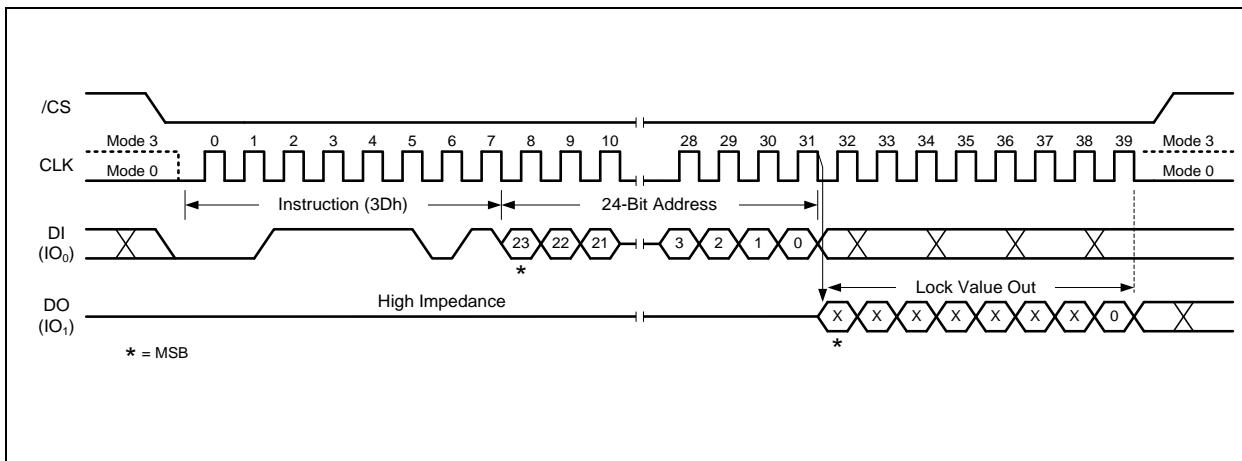

Figure 57. Read Block Lock Instruction
To read out the lock bit value of a specific block or sector as illustrated in Figure 4d, a Read Block/Sector Lock command must be issued by driving /CS low, shifting the instruction code “3Dh” into the Data Input (DI) pin on the rising edge of CLK, followed by a 24/32-bit address. The Block/Sector Lock bit value will be shifted out on the DO pin at the falling edge of CLK with most significant bit (MSB) first as shown in Figure 57. If the least significant bit (LSB) is 1, the corresponding block/sector is locked; if LSB=0, the corresponding block/sector is unlocked. Erase/Program operation can be performed.